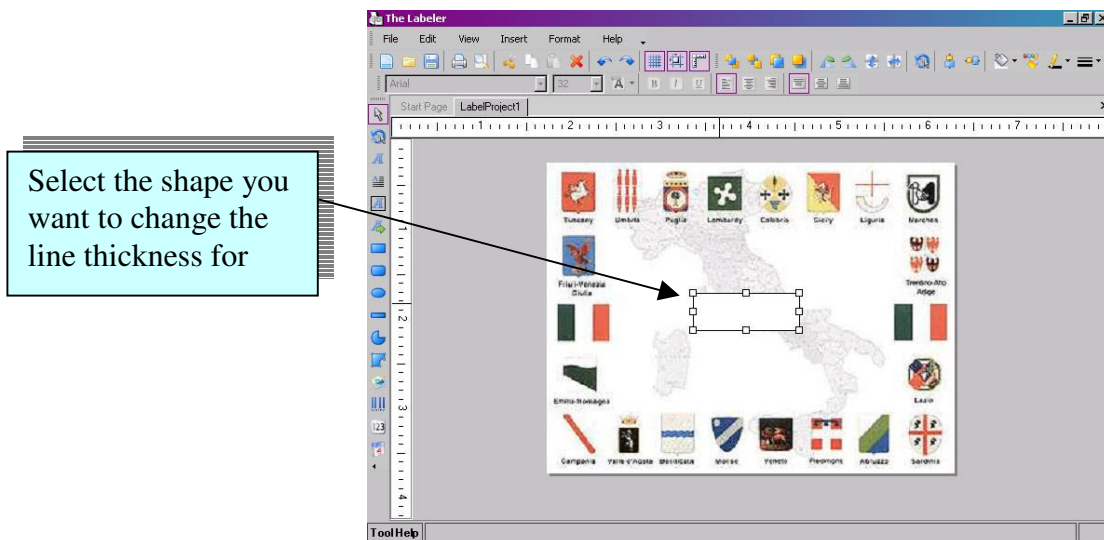

Figure 4.2.3.1: Select the shape you want to format
1. Select the shape you want to change the line thickness for (see Figure 4.2.3.1).
2. Select the line thickness icon  from the formatting toolbar (see Figure 4.2.3.2).